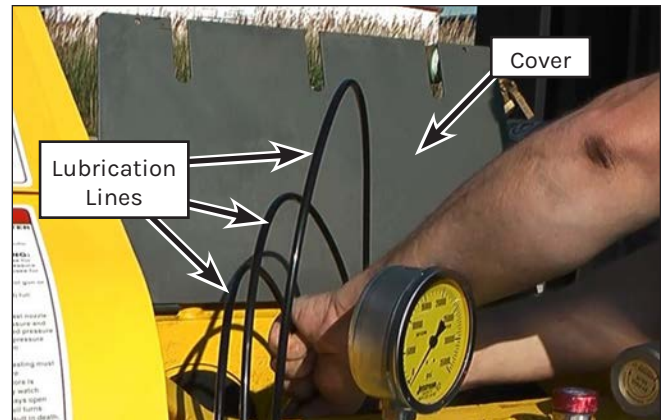

Figure 76: Connecting the Water Lubrication Lines.
25. Connect the water lubrication lines (Figure 76) to the fittings on the stuffing boxes.